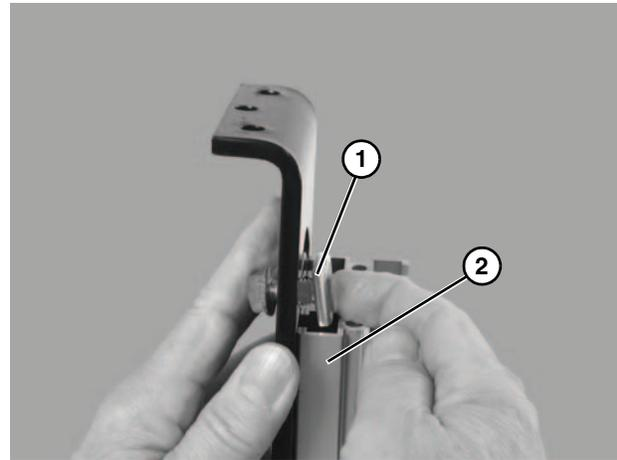

Figure 7
- Align nuts (**Figure 7, item 1**) with inside t-slots on leg assembly (**Figure 7, item 2**). Slide nut into t-slot.